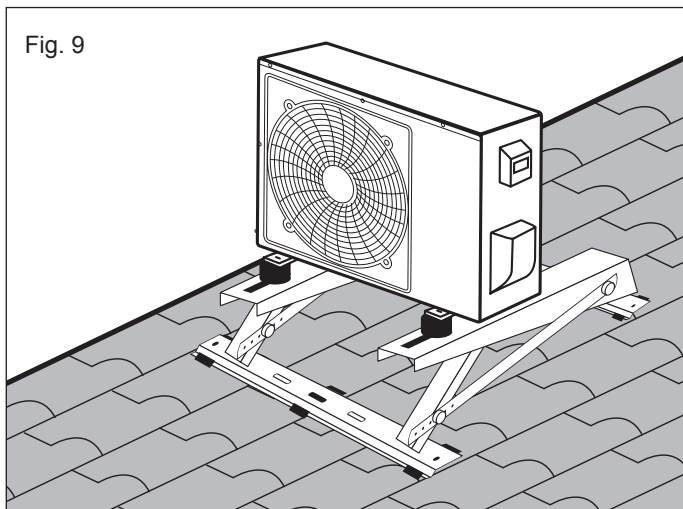

Fig. 9
3.3 ROOF INSTALLATION (Fig. 9)